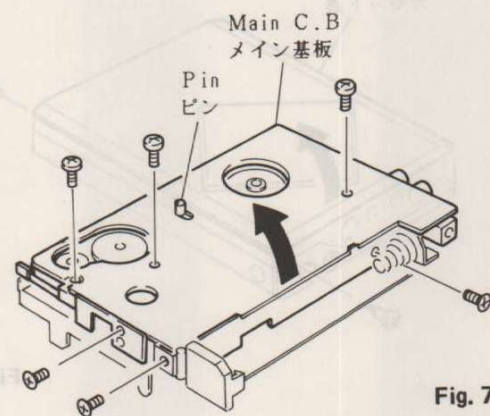

Fig. 7
- 5) Remove 6 screws to release the fitting of the pin and remove the circuit board in the direction of the arrow. (See Figure 7)